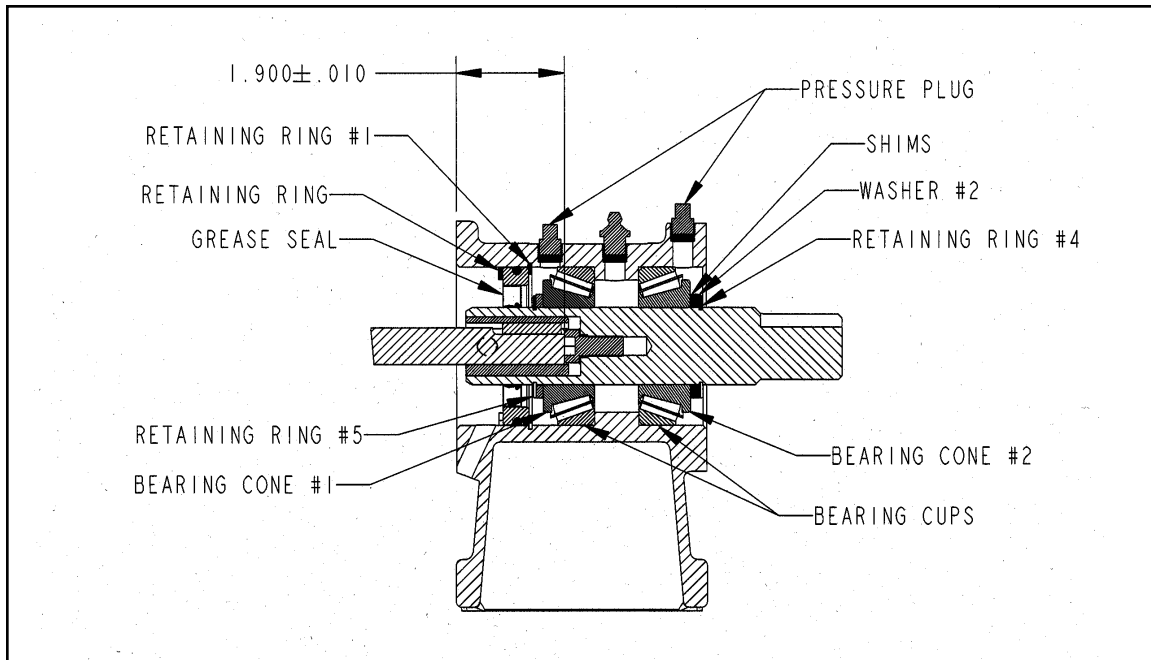

Figure 6.7
1. Remove the grease seal holder from the liquid end side of the bearing frame (Figure 6.7, G-Bearing Frame Overhaul). To do this: insert two (2) 6-32 bolts into the threaded holes, then gripping the bolts with a pair of pliers, work the seal holder out.
2. Remove retaining ring #4, the shims, and the back-up washer (Figure 6.7, G-Bearing Frame Overhaul).
3. If removed, press bearing cone #1 onto the shaft, holding the bearing square while starting. Make sure that washer #1 behind retaining ring #2 is in place. The correct check set-up may be checked by placing the shaft into the frame and measuring the 0.16-inch (4.1 mm) recess for G-Bearing frame pumps (Figure 6.7, G-Bearing Frame Overhaul).